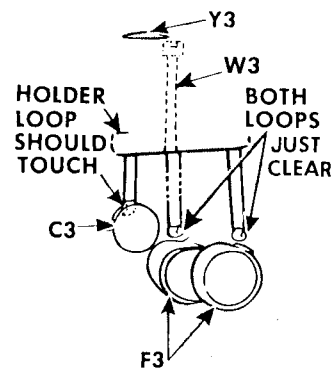
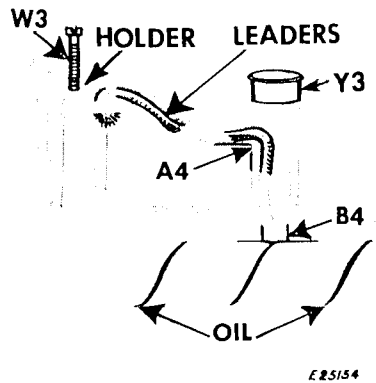
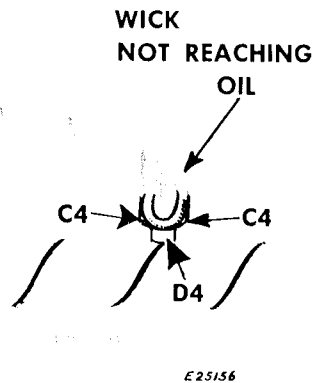

Fig. 54. Wick Loops for Needle Bar Link and Thread Take-up
Fig. 55. Replacing Oil Wick Holder
Fig. 57. Incorrect Installation
When replacing arm side shield wick, make sure that lower end of wick drops into oil pool beneath needle bar crank and that the two upper wick loops come as close as possible to the needle bearings **F3**, Fig. 54 without touching them. Then replace and securely tighten screws **U3**.
Oil wick holder includes two oil wick leaders, see Fig. 55, and one oil wick for the needle bar link and for the two sets of needle bearings in the thread take-up as shown in Fig. 54. It is removed in the following manner:—
4. Remove holder screw **W3**, Fig. 54.
- Remove top arm plug Y3, Figs. 54 and 55. Use a sharp-bladed screwdriver or a small chisel to pry plug Y3 from arm casting.
- Insert two oil wick leaders into arm casting, as shown in Fig. 55, so that wick is slack over edge of casting at point A4, Fig. 55. This will insure free passage of oil. Use tweezers through the plug hole at Y3 to loop the wick and bring it into positive contact with the arm shaft at point B4, as shown in Fig. 55.
CAUTION: If the bottom of either oil wick leader is caught on the ledge as shown at C4, Fig. 57, no oil can be taken up by the wick to be carried to the needle bar link and thread take-up bearing, where it is needed. Make sure that the oil wick leaders are pushed all the way down into the smaller hole, without jamming, until they touch the arm shaft, as shown in Fig. 55.
- When oil wick leaders are correctly installed, replace holder screw W3, Fig. 54.
- Adjust the three oil wick loops in holder, see Figs. 54 and 55, so that two of the loops come as close as possible to, without touching, the two sets of needle bearings F3 while the third wick loop makes positive contact with the wick inside the stud C3, in the needle bar link, as shown in Fig. 54.